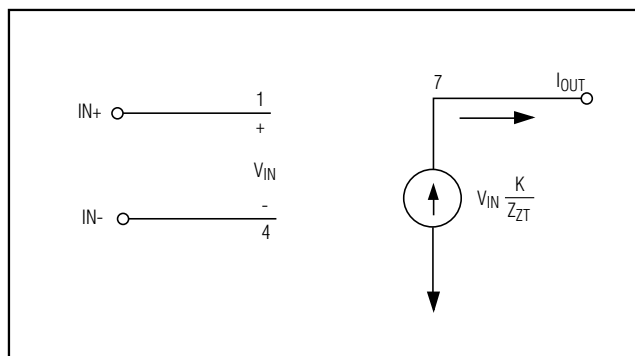

Figure 1. Operational Mode
The output is essentially a voltage-controlled current source as shown in Figure 1. The MAX9547 output is a current proportional to the differential input voltage, and inversely proportional to the impedance of the user-selected transconductance network, Z_{ZT} . The current output provides inherent short-circuit protection for the output terminal. A differential input voltage applied to the input terminals causes current to flow in the transconductance element (Z_{ZT}), which is equal to $V_{\text{IN}} / Z_{\text{ZT}}$. This current in the transconductance element is multiplied by the preset current gain (K) and appears on the output terminal as a current equal to $(K) \times (V_{\text{IN}} / Z_{\text{ZT}})$. This current flows through the load impedance to produce an output voltage according to the following equation: